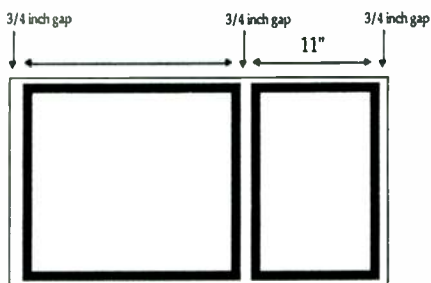

FIGURE 7: Detail on furring strip "map" on bottom panel. All strips are placed so that 3/4" space is left from each edge.
2. Use 1" x 2" furring strips to make a "map" on one panel A (which we'll now call the bottom panel [*Fig. 7*]).